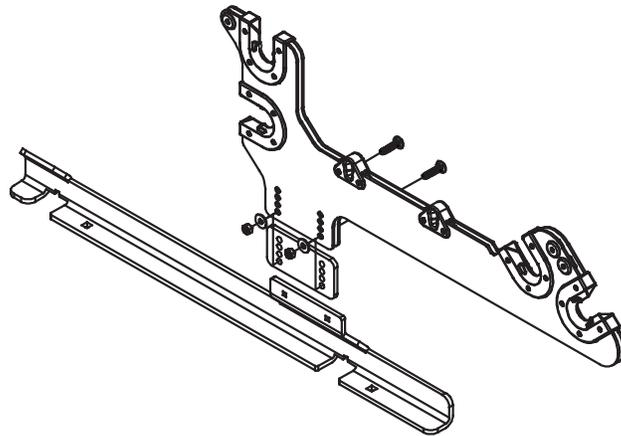
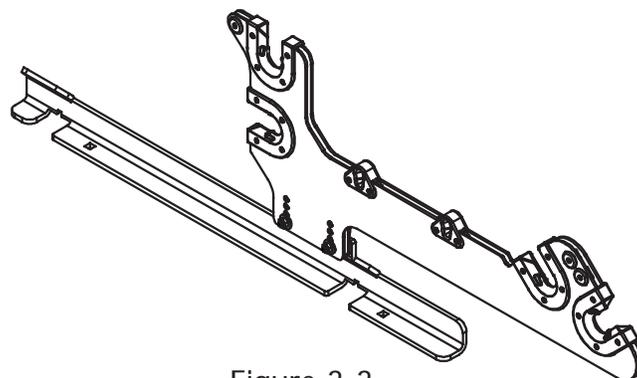

Figure 3-1
Figure 3-3
3-1: Slide the shim between the opening in the plugged-hole pole bracket and align the 8 shim holes with the 8 pole bracket holes **Fig 3-1**. Next place the bracket on the outside of the pole bracket base on the left frame side front. Attach the plugged-hole pole bracket to the frame using (2) $\frac{1}{4}$ "-20 x 1.25" carriage bolts. Thread the carriage bolts through the table mount base and then the bottom hole in the pole bracket from inside to outside as shown in **Fig. 3-3**. The nuts will be on the outside. This will set the pole bracket at its highest position. On the end of each bolt, slide a flat washer followed by a lock nut as shown in **Fig. 3-3**.